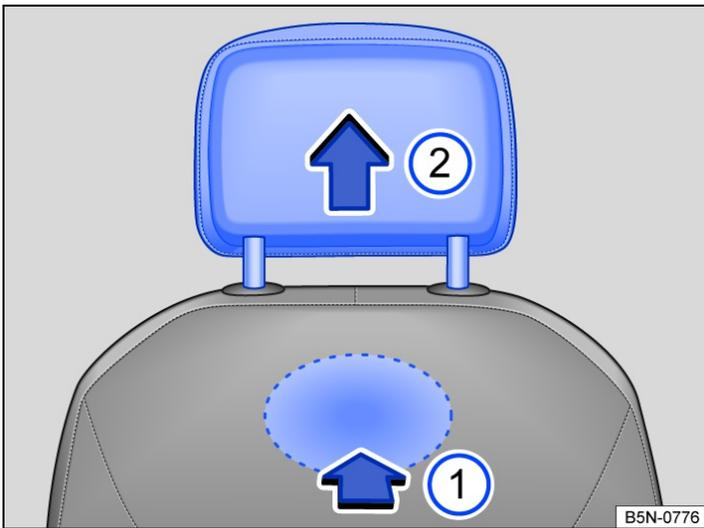

Fig. 1 Front head restraint: removing.
- To release the head restraint, feel for the recess in the marked area on the rear side and press it in the direction of the arrow → Fig. 1 ①.